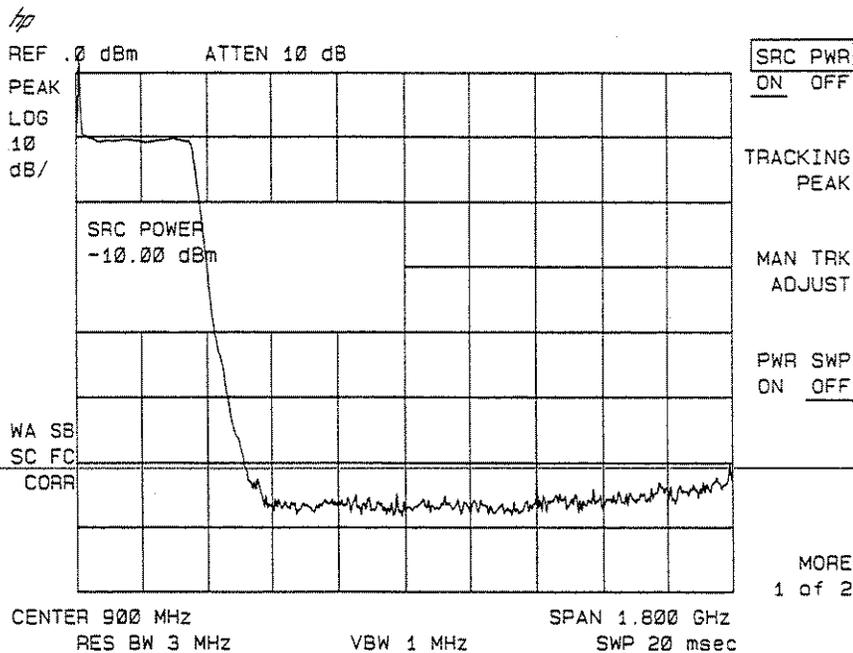

Figure 2-37. Tracking-Generator Output Power Activated
3. Activate the tracking generator menu by pressing **AUX CTRL** and **TRACK GEN**. To activate the tracking-generator power level, press **SRC PWR ON OFF** until ON is underlined. See Figure 2-37.